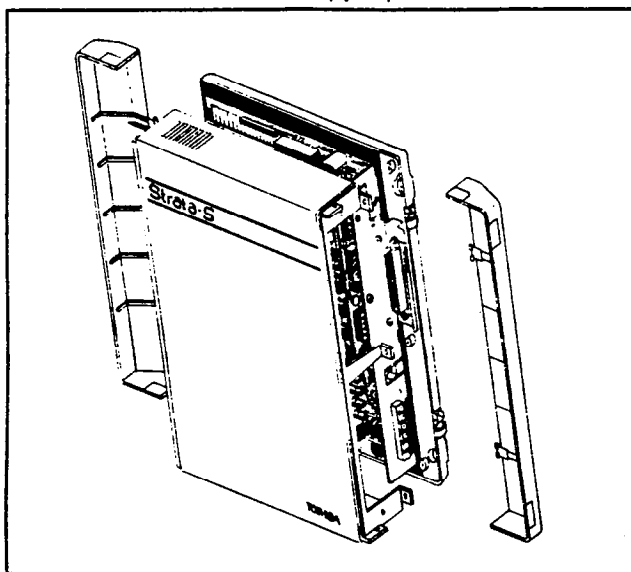

FIGURE 1—SIDE COVERS
- 1) Remove both side covers from the MKSU (Figure 1).